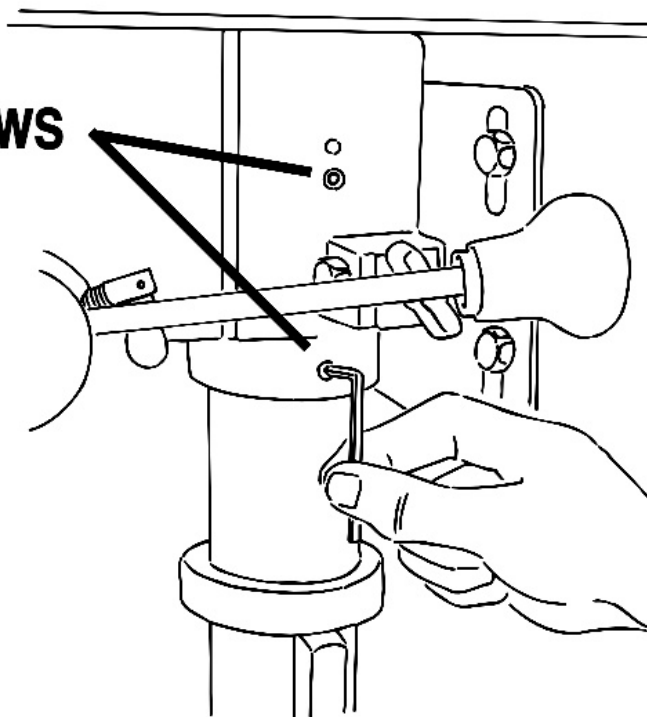

Fig. 8
7. Lift head assembly onto column with the spindle positioned over the table. Slide head assembly down as far as it will go. Tighten the two head set screws with the 4 mm hex wrench. See Figure 8